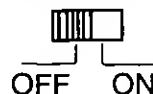

Fig. 1
When the switch ② is set to ON, the filter is connected to the amplifier circuit. When it is set to OFF, the filter is disconnected from it. (See Fig. 1 at right.)